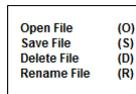

Figure 6-24B File Menu
2) Cursor over a file with right click will show the pop-up menu as below (Figure 6-24B);